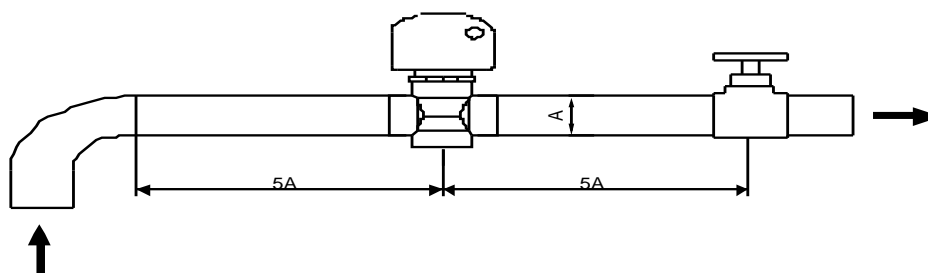

Figure 8
- The flow switch must be installed on a straight pipeline, and there must be more than five times the length of the pipe diameter on either side of the flow switch (see Figure 8 below). The direction of fluid must follow the arrow on the controller. The terminal block should be installed in a position that is easy to operate.